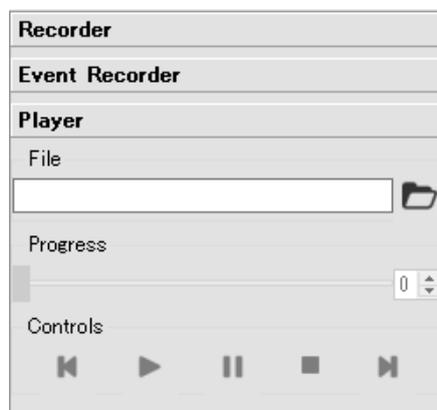

Figure 7-58 Log player window 1
- 4 Select the log data file for re-playing (Figure 7-58).